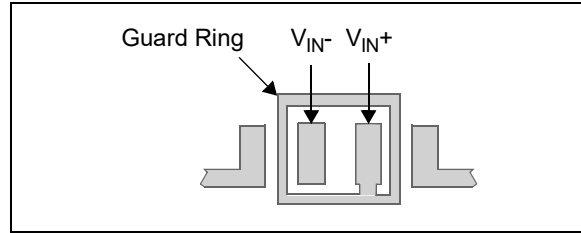

FIGURE 4-4: Example Guard Ring Layout.
The easiest way to reduce surface leakage is to use a guard ring around sensitive pins (or traces). The guard ring is biased at the same voltage as the sensitive pin. Figure 4-4 shows an example of this type of layout.
1. Inverting Amplifiers (Figure 4-4) and Trans-Impedance Gain Amplifiers (convert current to voltage, such as photo detectors).